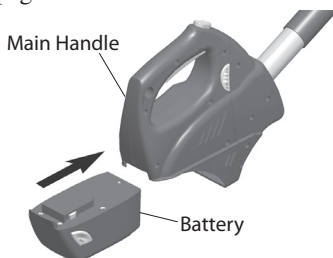

Figure 26 - Assembled Battery onto Main Handle
7. Slide battery onto main handle until release buttons “snap” together (see Figure 26).